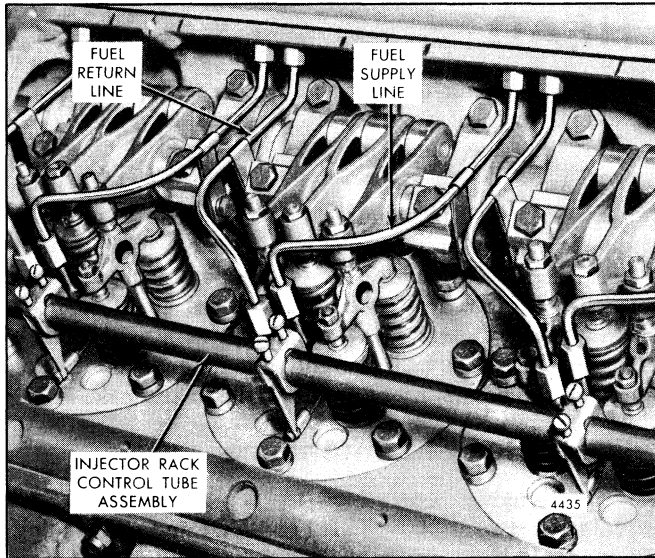

Fig. 2 - Location of the Injector Rack Control Tube Assembly
3. Remove the clevis pin securing the fuel rod to the injector rack control tube (Fig. 2).